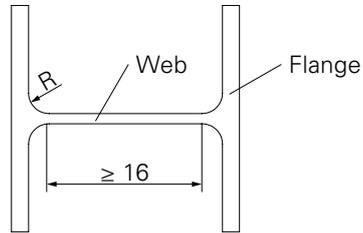

Fig. A2.17
- Web height: ≤ 16 cm. (Fig. A2.17)